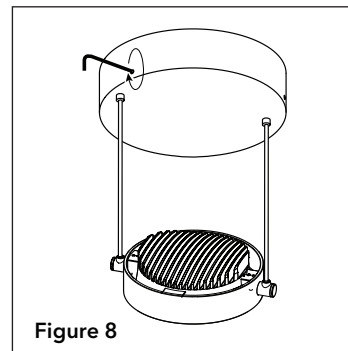

Figure 8
Step 8. Install canopy over mounting bracket and secure by tightening retaining screws (Fig. 8).